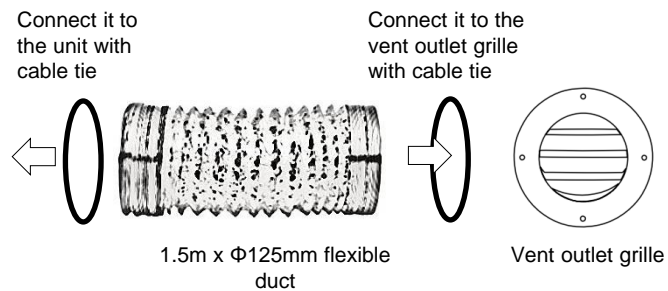

Fig.6
- 8) Attach ducting if required ( Fig.6) to extract the air to the outer wall using 1.5 long flexible ducting, cable ties and vent outlet grill provided. Fix and tighten the cable ties firmly to hold the flexible duct to the unit and the outer wall vent.